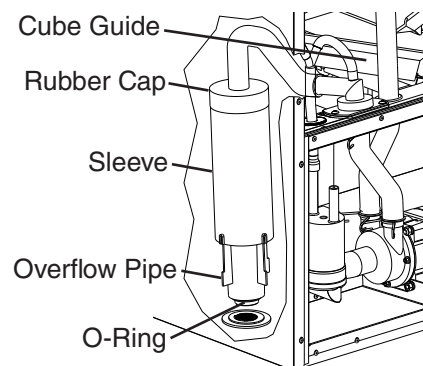

Fig. 16
- 7) Slide the cube guide to the right, then remove the rubber cap and sleeve covering the overflow pipe. See Fig. 16. Unscrew the overflow pipe. After the water tank has drained, reconnect the overflow pipe. Replace the rubber cap, sleeve, and cube guide in their correct positions. **NOTICE! Make sure the O-ring is attached to the bottom of the overflow pipe and be careful not to cross thread the overflow pipe.**
- 4) Remove the front insulation panel, then slide the cube guide to the right. Remove the rubber cap and sleeve covering the overflow pipe. See Fig. 16. Unscrew the overflow pipe. After the water tank has drained, reconnect the overflow pipe. Replace the rubber cap, sleeve, cube guide, and front insulation panel. **NOTICE! Make sure the O-ring is attached to the bottom of the overflow pipe and be careful not to cross thread the overflow pipe.**
- 3) Slide the cube guide to the right, then remove the rubber cap and sleeve covering the overflow pipe. See Fig. 16. Unscrew the overflow pipe. After the water tank has drained, reconnect the overflow pipe. Replace the rubber cap, sleeve, and cube guide in their correct positions. **NOTICE! Make sure the O-ring is attached to the bottom of the overflow pipe and be careful not to cross thread the overflow pipe.**